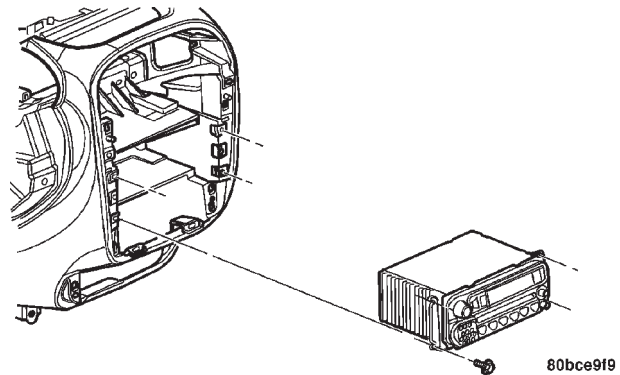

Fig. 9 Radio Remove/Install
- (2) Remove instrument panel center bezel. Refer to Group 8E Instrument Panel Systems, Instrument Panel Top Cover Removal and Installation.
- (3) Remove four mounting screws on the radio and pull out of instrument panel (Fig. 9).